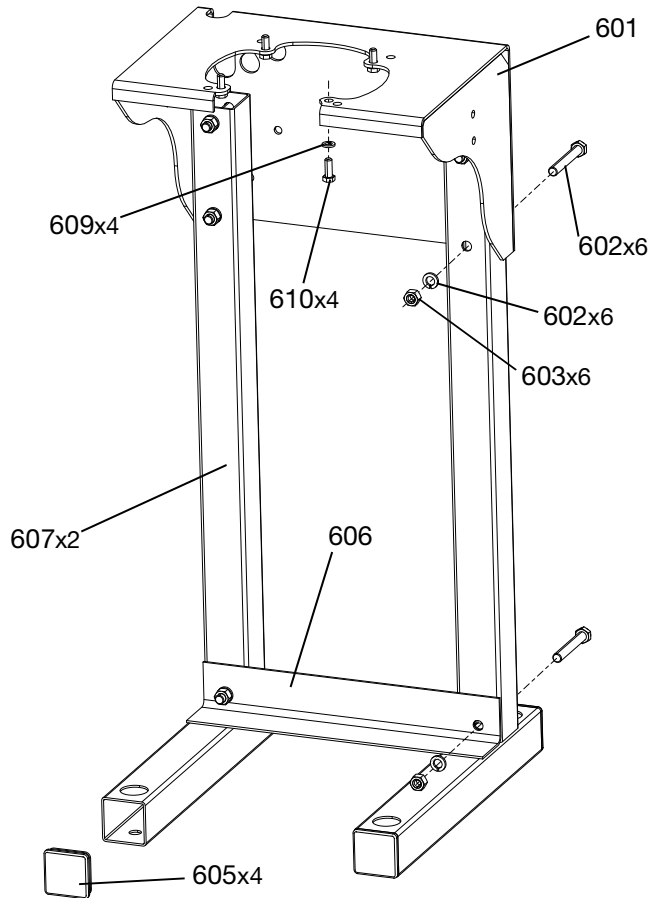

FIG. 27: Pump Stand
1. Assemble the stand as shown in **FIG. 27**.